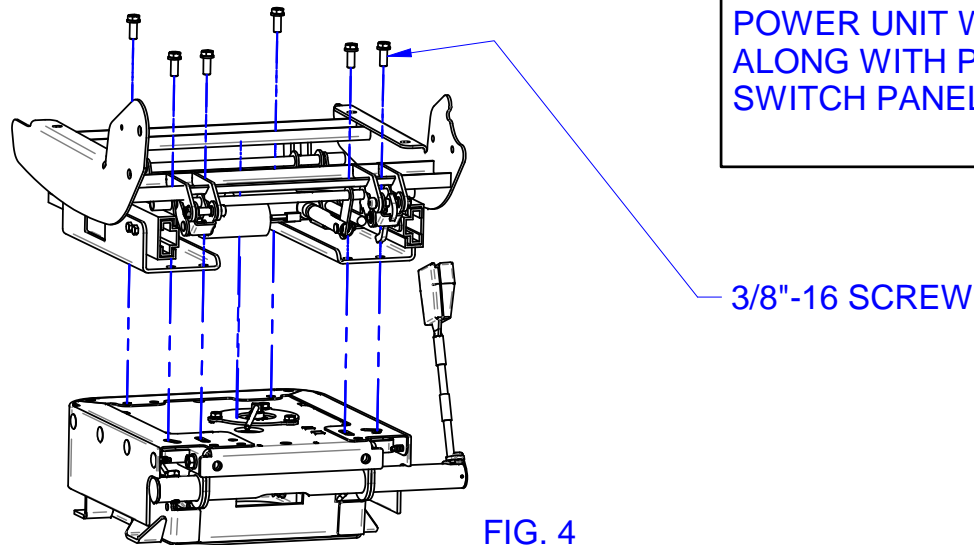

FIG. 4
8. REMOVE (6) 3/8"-16 SCREWS ATTACHING OLD POWER UNIT BRACKETS TO TOP OF SUSPENSION AND REMOVE WHOLE POWER UNIT WITH CUSHION FRAME. DISCARD HARDWARE ALONG WITH POWER UNIT HARNESS, SWITCH AND FRONT SWITCH PANEL. (FIG. 4)